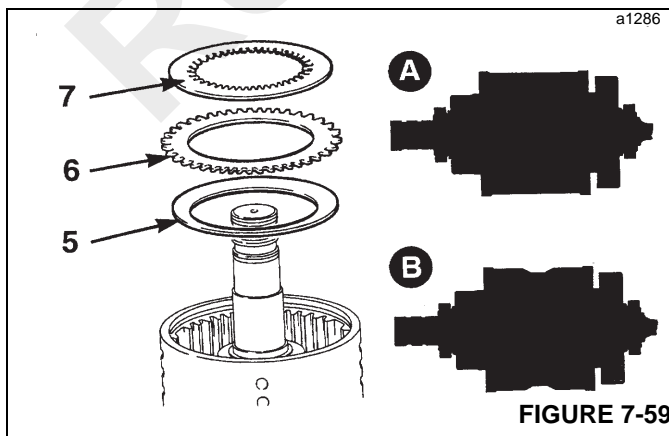

FIGURE 7-59
5. Install the disc spring assembly (5, Figure 7-59). Install the assembly so that the outer diameter curves away from the clutch piston.